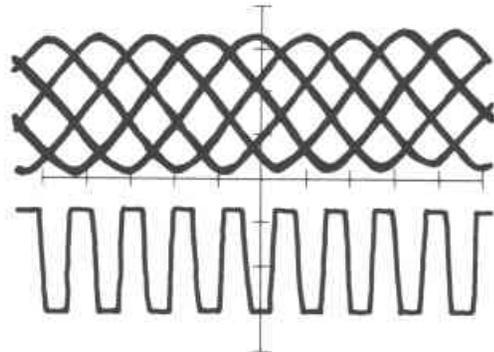

Fig. 24
- 4) Adjust VR401 to satisfy both (A) and (B) condition at the same time.
- (A) Frequency of J601 Pin 4 is 7,350 ± 8 Hz.
- (B) Waveform of CH1 (Test point HF, GND on PB-1) and CH2 (Test point PLCK, GND on PB-2) of the synchroscope shown in Fig. 24 are synchronized.